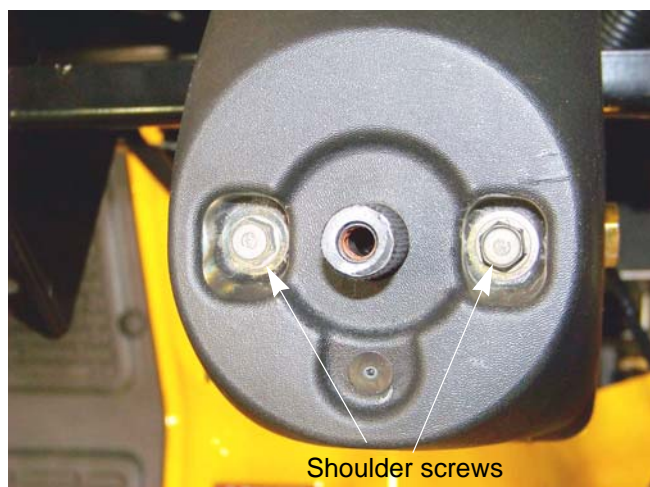

Figure 6A.17
6. Remove the two shoulder screws that hold the steering shaft collar to the tilt steering bracket using a 3/8" wrench. See Figure 6A.17.